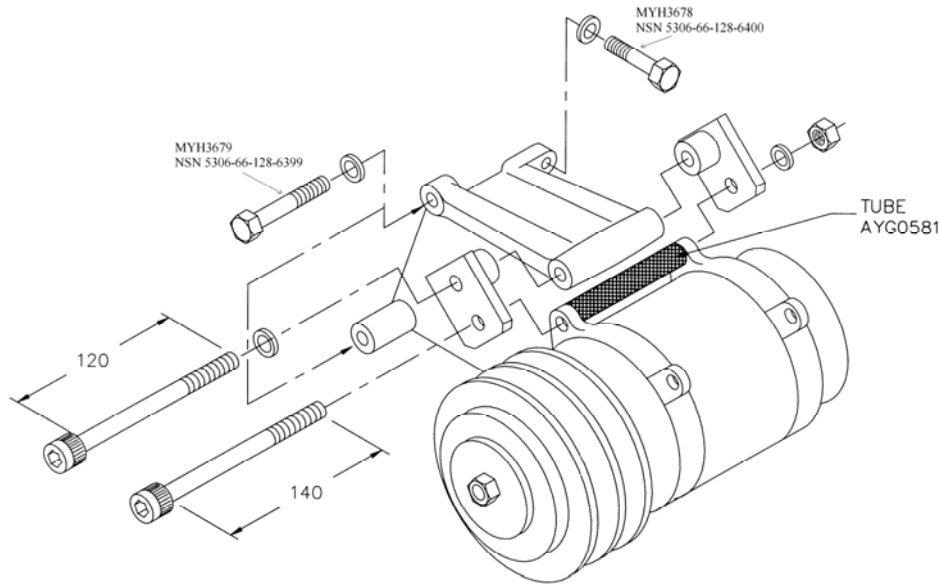

Figure 1 Compressor Mounting Configuration
11. Drawings Required. Figures 1 to 3 show the correct fitting of the replacement air conditioner mounting bracket.
- d. Remove the 140 mm long bolt as shown in Figure 1.